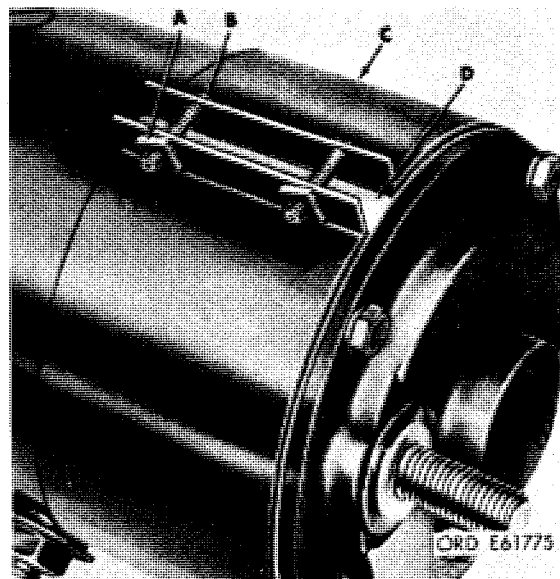

Figure 3-17. Removing or installing brush opening band.
a. Remove two square nuts (A, fig. 3-17), two round-head screws (B), brush opening band (C), and band (D).